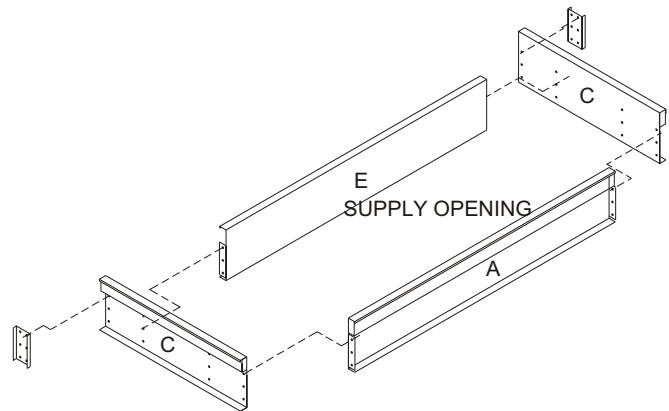

Figure 4
8. Install the $\frac{3}{8}$ " bolts on both ends of Brace Panel (E) and End Panel (A) through the designated holes in Side Panels (C). Make sure the corners are flush and square as shown in Figure 4. Tighten the hardware securely.